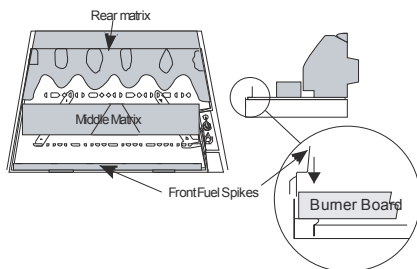

Figure 29
2. Place the **middle matrix** onto the burner board so that it keys into the triangular depression on the board (see **Figure 29**).
3. Insert the front fuel spike between the board and the front of the metal tray (see **Figure 29**).